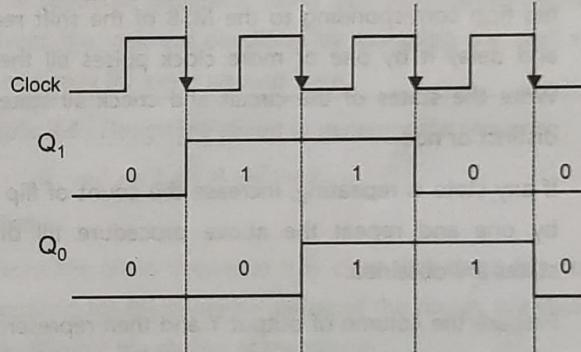

Fig. 3.55 : Waveforms of 2-bit Johnson counter
- The waveforms are shown in Fig. 3.55.